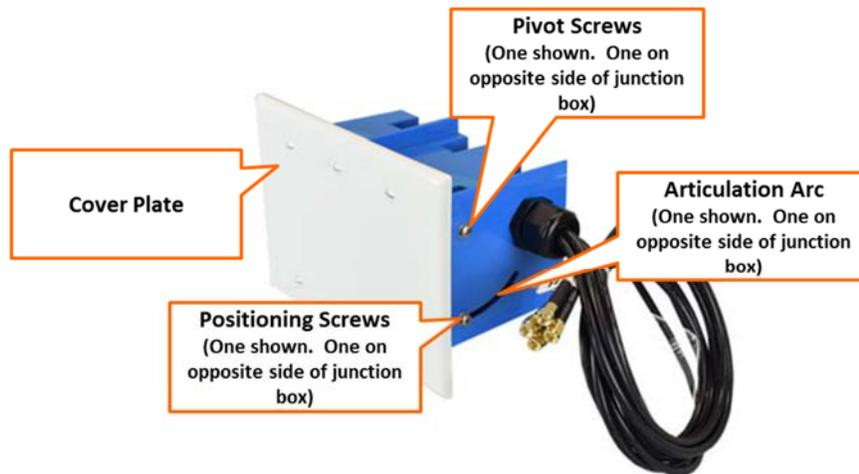

Figure 1
**Note 2:** Precise beam positioning is accomplished through a combination of junction box orientation and antenna positioning within the junction box. Figure 1 identifies the antenna components that will be referenced in the antenna positioning steps.